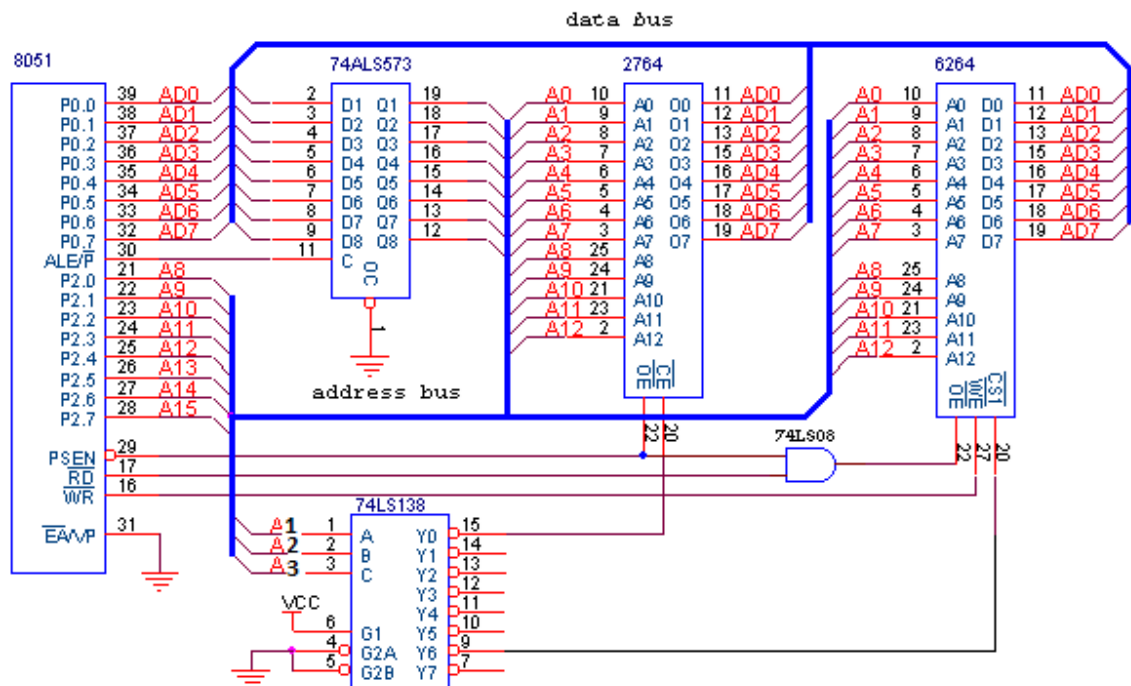

Figure 1/ Rajah 1
- c) Show the range of the address for devices 2764 and 6265 below based on schematic in **Figure 1**.